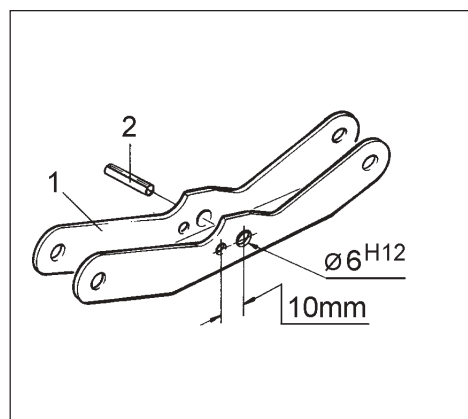

Fig. 26.61
- Remove expansion pin of the tipping lever (Fig. 26.61/1)
- Drill new hole ($\text{Ø } 6^{\text{H}12}$ mm) into tipping lever according to Fig. 26.61
- Drive new expansion pin 6 x 45, DIN 1481 (Fig. 26.61/2) into the tipping lever (Fig. 26.61/1)